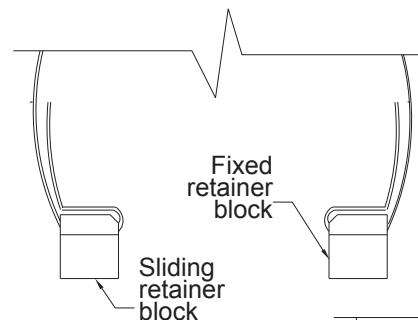

Figure 3
Step 5: Bend the strap at both retainer blocks, near the non-beveled ends to allow the carriage bolt to easily pass through the retainer blocks (Figure 3 and 4).